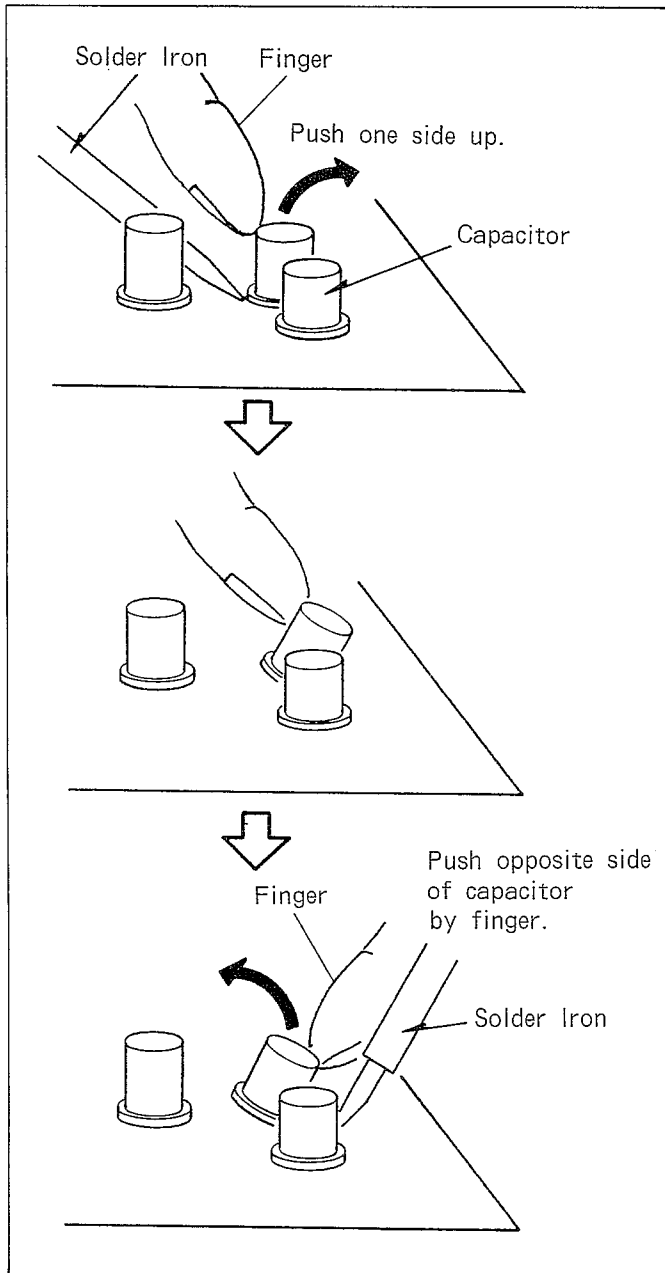

Fig. T9
- 7) If solder becomes bridge as shown in Fig.T9 correct the solder using solder sucker (De-solder braid).